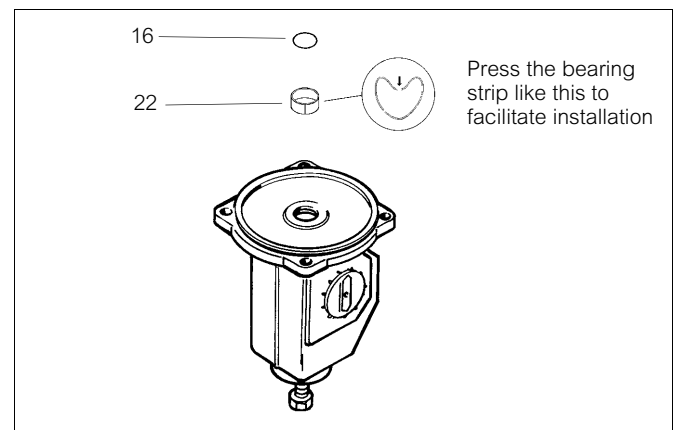
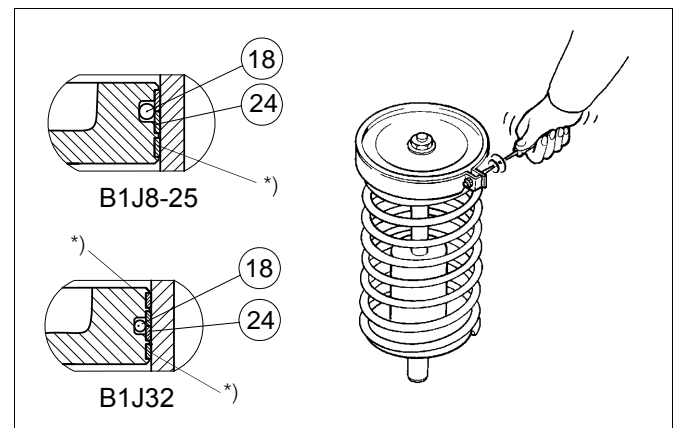
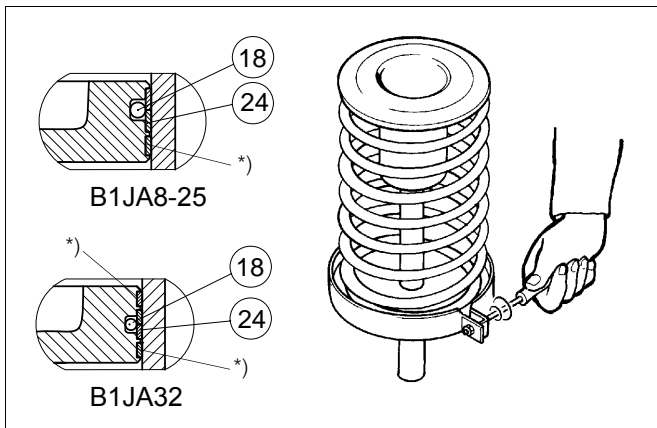

Fig. 11 Mounting the piston rod bearing and seal
Fig. 12 Tightening piston seals with a tie ring
Fig. 18 Tightening piston seals with the tie ring
- ☐ Lubricate seal space and new O-ring with Unisilikon L250L or equal silicone grease. Install new bearing and O-ring, see Fig. 11.
- ☐ Install the O-ring (18) located under the piston seals.
- ☐ Place piston seals (24) around the piston so that the ends of the strips are located at opposite sides. Tighten the strips with a tie ring as in Fig. 12. Strips indicated with an asterisk can be cut 1.5 to 3 mm shorter to facilitate assembly.
- ❑ Remove the cylinder base side stop screw (27).
- ❑ Remove cylinder fastening screws (31) from the cylinder base (6) side. Lift the cylinder off together with the end.
- ❑ Remove housing cover (2).
- ❑ Turn the linkage enough to expose the bearing unit fastening screw (29). Open the screw.
- ❑ Remove piston rod seal (16) and bearing (22). Clean the seal space.
- ❑ Lubricate seal space and new O-ring with Unisilikon L250L or Molykote III. Install new bearing and O-ring, see Fig. 11.
- ❑ Install the O-ring (18) located under the piston seals.
- ❑ Place piston seals (24) around the piston so that the ends of the strips are at opposite sides. Tighten the strips with a tie ring as in Fig. 18. Strips indicated with an asterisk can be cut 1.5 to 3 mm shorter to facilitate assembly.